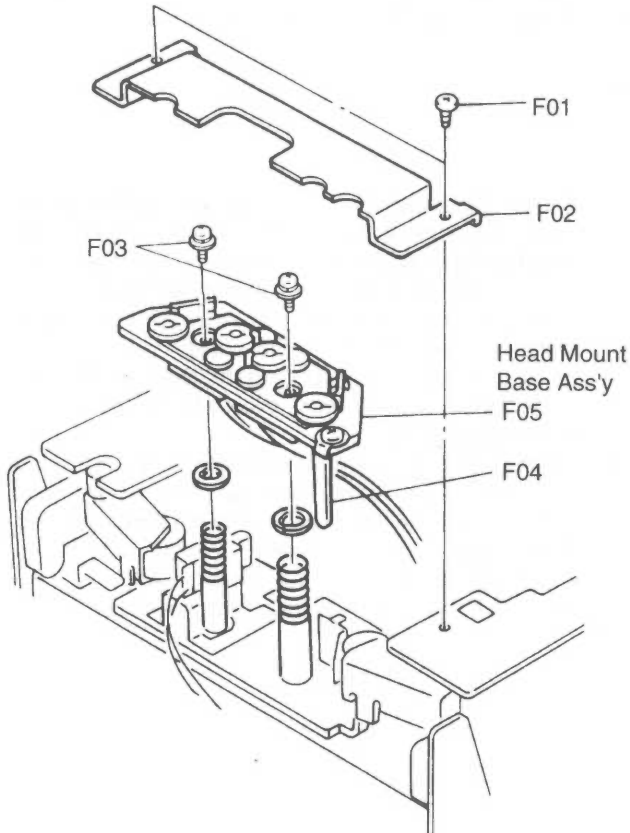

Fig. 2.1
Refer to Fig. 2.1.
- (1) Remove the Mechanism Ass'y.
- (2) Remove screws F01 (2 pcs.) and detach F02 (Head Mount Cover). Refer to Fig. 2.1.
- (3) Remove screws F03 (2 pcs.), straighten F04, and detach F05 (Head Mount Base Ass'y).